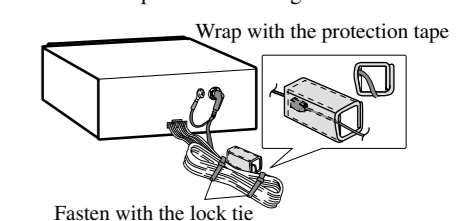

Fig. 10
- When installing the optical cable connection box with the lock tie. (Fig. 10)